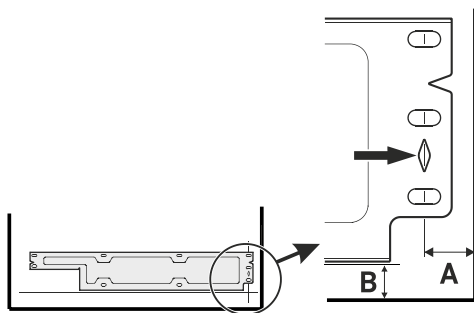

Fig. 33
- Align the lower mounting bracket with lines Fig. 33 (A) and Fig. 33 (B). Fit with at least six 4x16 screws.